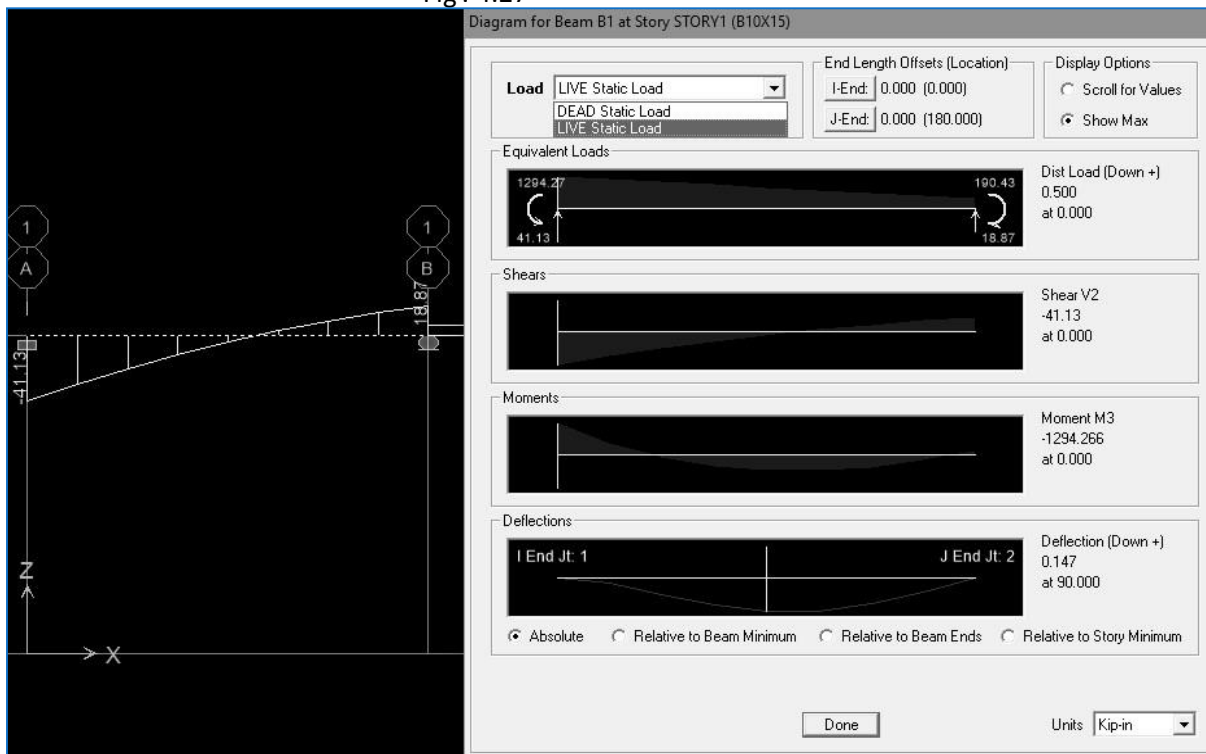

Fig. 4.28
6.3 **Maximum Bending Moment on beam:** Go to display → Show Member Forces/Stress Diagram → Frame/Pier/Spandrel Forces... → Select Load (Live/Dead etc.) → Moment 3-3 → Click on Show Values on Diagram → OK → Select the Beam by click (from the display elevation view) → press mouse right button and find out your desirable values like vertical force, horizontal force and moment. (Fig: 4.28)